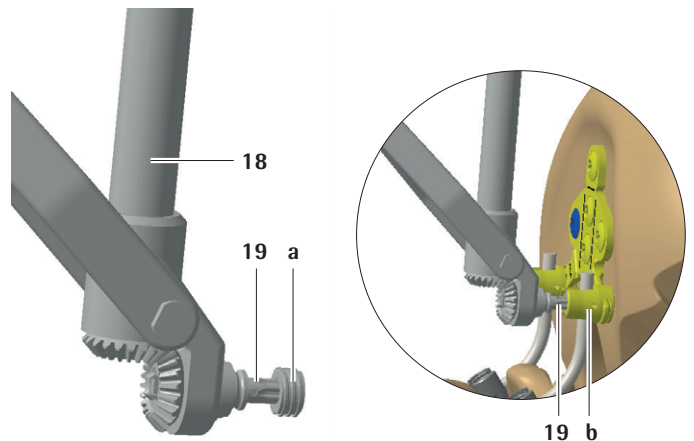

Fig. 13
- ▶ Attach the set screw **a** to the screwdriver bit **19** (SZ123SU) of the angled gear instrument **18** (SZ116R), see Fig. 13.
- ▶ Position the set screw in the threaded portion of the rod receptacles **b**, see Fig. 13.